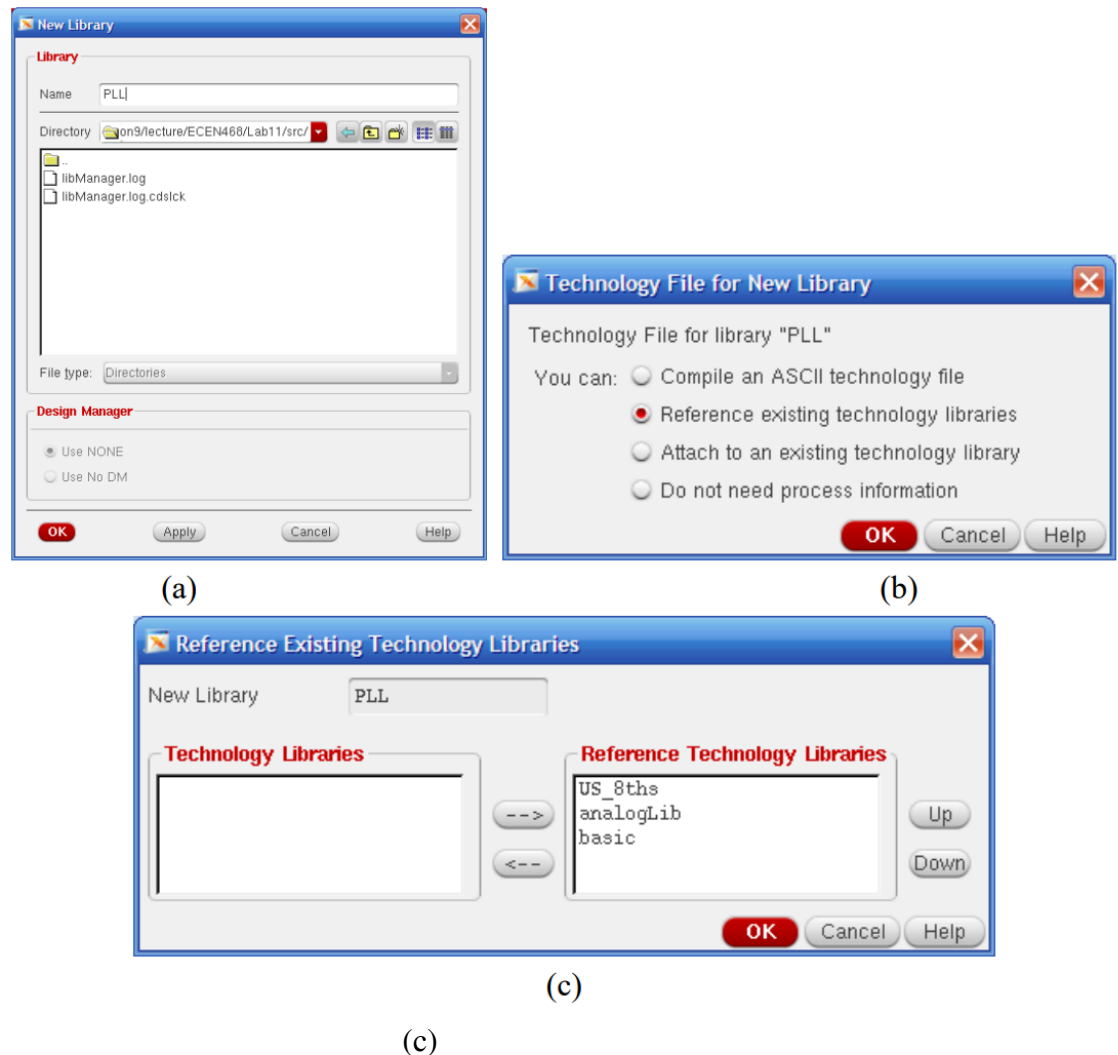

Figure 6 Creating a Library
Controlled Oscillator(VCO), Frequency Divider(FD) and top module. From the Library Manager, select **File – New – Library**. In the New Library window (Figure 6(a)), write **PLL** as a name of the library and click **OK**. And, you will use reference existing technology libraries as a technology file as shown in Figure 6(b). In the reference existing technology libraries window, move all technology libraries in left box to right box (Figure 6(c)). Then, you will see **PLL** library in the Library section in Library Manager.